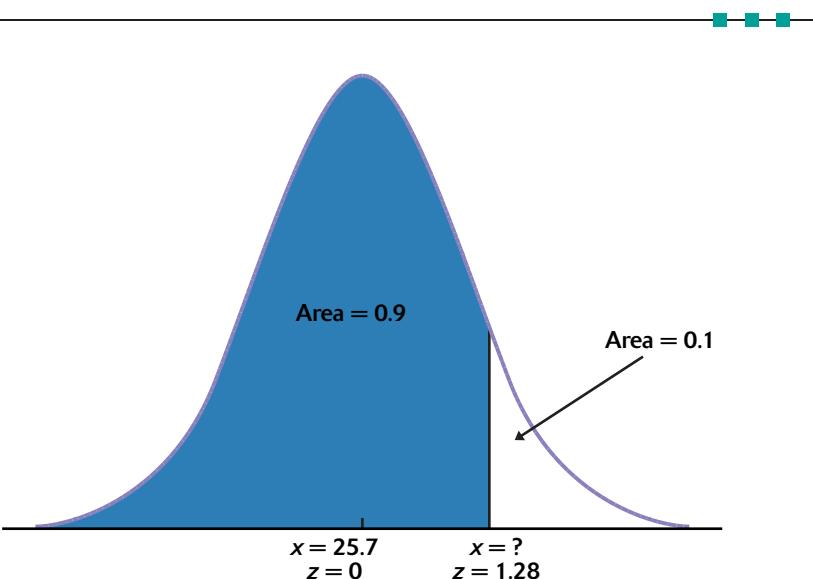

FIGURE 1.26 Locating the point on a Normal curve with area 0.10 to its right, for Example 1.22.
- State the problem.* We want to find the miles per gallon rating x with area 0.1 to its right under the Normal curve with mean $\mu = 25.7$ and standard deviation $\sigma = 5.88$. That's the same as finding the miles per gallon rating x with area 0.9 to its left. Figure 1.26 poses the question in graphical form. Because Table A gives the areas to the left of z -values, always state the problem in terms of the area to the left of x .